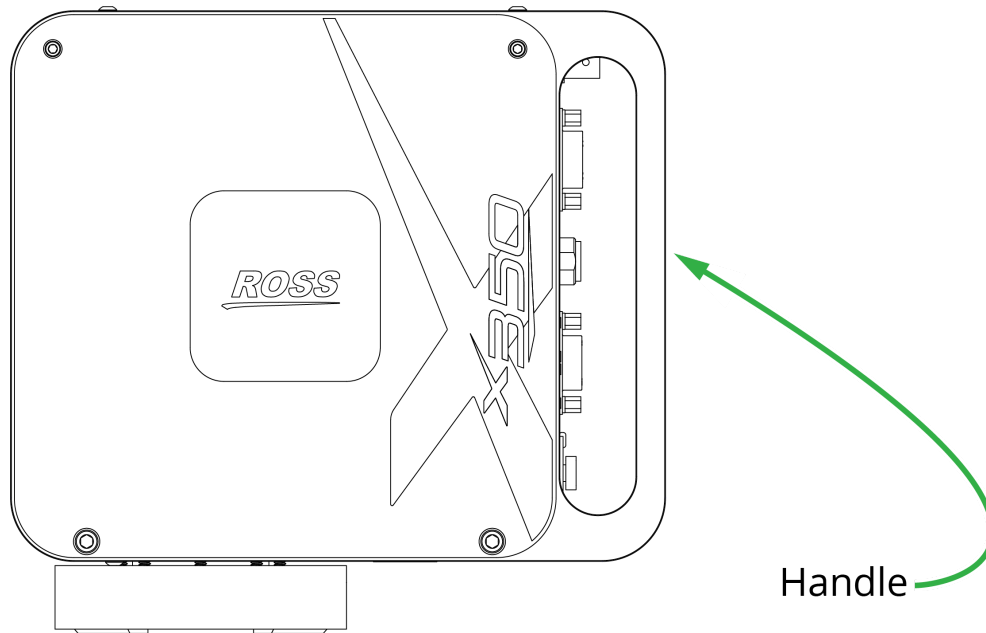

Figure 3.10 — Side View of an X350 Head, showing a Handle
- prevent strain on cable connections, by attaching cables to the head's handles (Figure 3.10). Minimize drag by tying cables to a fixed support close to the head, and by keeping the unsupported cable swag short.